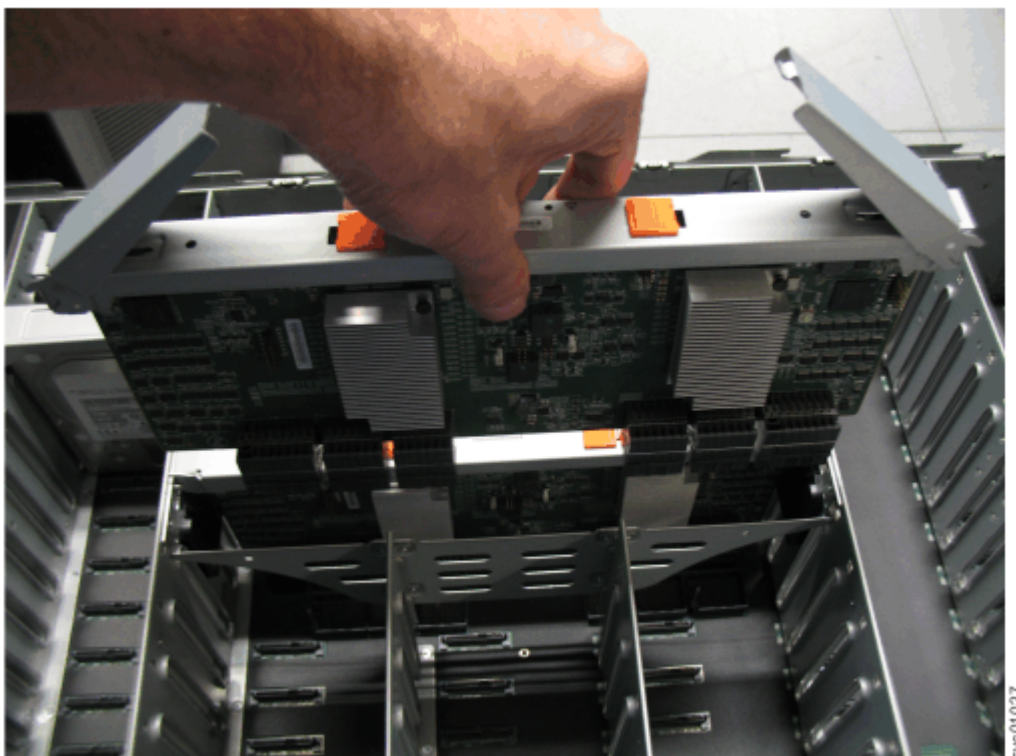

Figure 120. Remove the secondary expander module
4. Lift the secondary expander module carefully out of the enclosure, as shown in Figure 120 on page 166.